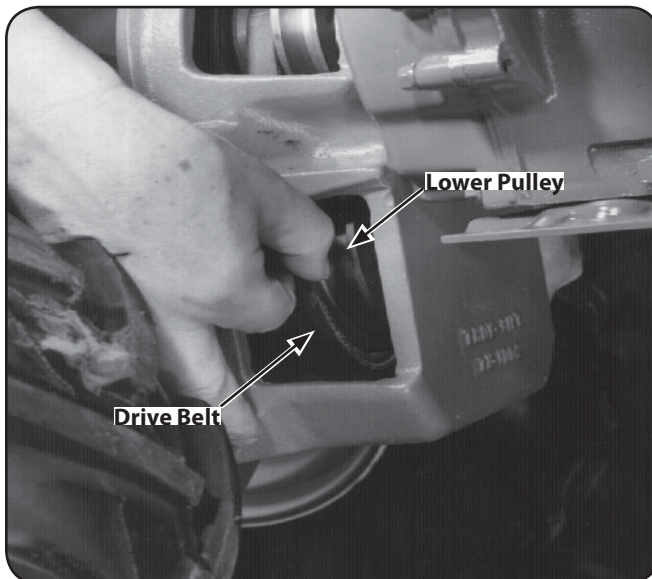

Figure 7-1
3. Use your right hand to move the belt down and away from the lower pulley, in the direction of the engine. See Fig. 7-1.